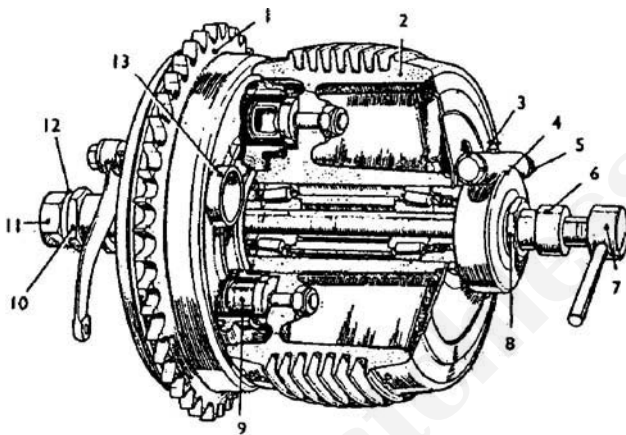

FIG. 76. DETAILS OF LIGHT-ALLOY HUB ASSEMBLY USED ON 1955-7 SPRING-FRAME MODELS WITH QUICKLY-DETACHABLE REAR WHEEL
Referring to Fig. 76, disconnect the speedometer drive by unscrewing the cable gland-nut (5) and withdrawing the end of the driving cable from the speedometer-drive gearbox (4). Next remove the nut (11) and washer (12) from the near-side of the hub spindle (7). Do not disturb the nut (10) which secures the brake cover-plate. Withdraw the hub spindle (7), by means of its short tommy,-bar,
KEY TO FIG. 76
Follow the removal procedure in reverse. Referring to Fig. 76, offer up the quickly-detachable wheel, insert the hub spindle (7) without the distance collar (6); engage the holes or tubular bosses in the brake-drum wall, with the hub driving-pins;